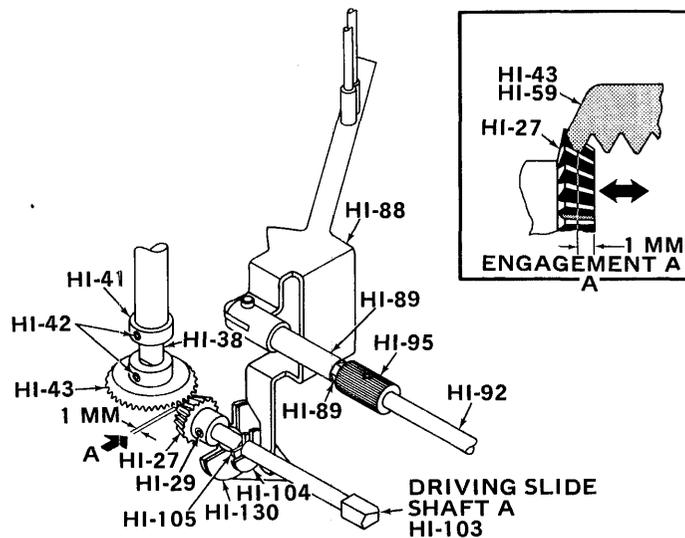
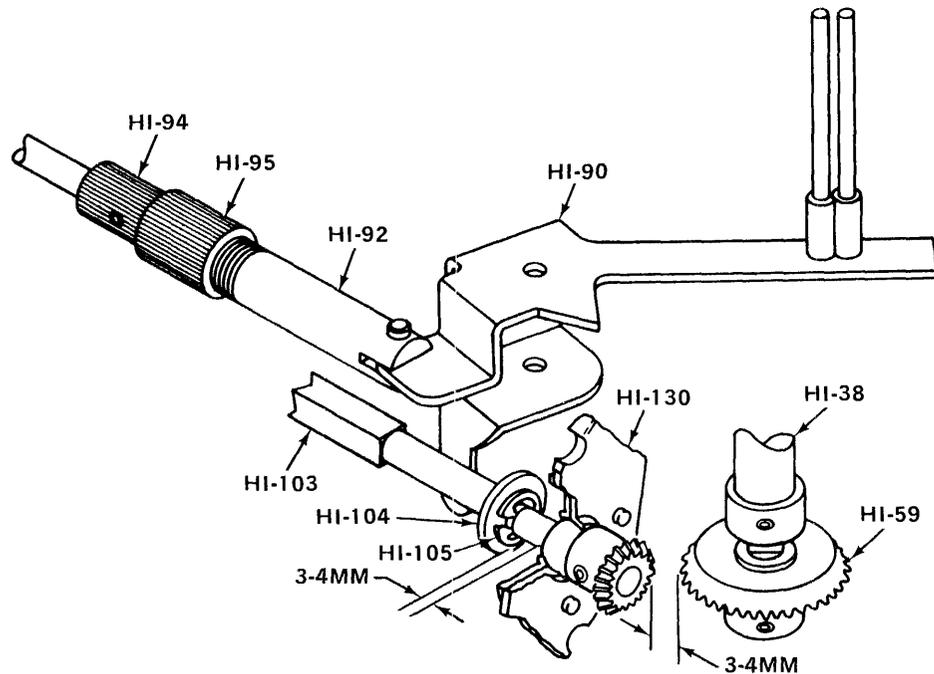
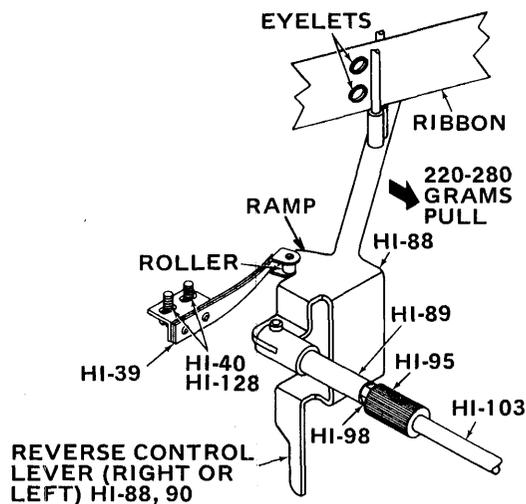

Figure 5-14. RIBBON FEED MECHANISM (REAR OF PRINTER, LEFT SIDE)
Figure 5-16. DRIVING SLIDE SHAFT A - ADJUSTMENT
Figure 5-18. RIBBON REVERSE TIMING
Torque transmission route for left and right ribbon feed mechanism is determined by position of driving slide shaft A (HI-103) (Fig. 5-16) controlled with control spring (HI-39) (Fig. 5-18) and left and right reverse control lever (Fig. 5-18/90, 88).
- A. Bevel Gears (Left and Right) (HI-27, 43) and (HI-27, 59) (Refer to Figure 5-14)
2. Adjust bevel gear (HI-27) (left side) with respect to bevel gear (HI-43) by loosening and tightening allen-head screws (HI-29) to obtain engagement A of approximately one millimeter (0.039-in.) . See Fig. 5-14, and View A.
When engagement A (Figure 5-14) has been properly adjusted between gears (HI-27) with respect to bevel gears (HI-43, 59), adjust bevel gears (HI-43, 59) alternately to obtain correct backlash operation of gears in the following manner:
1. When engagement A and B of bevel gears has been made (Figure 5-14, 5-15), one snap ring (HI-105) always contacts support bushing (HI-130); the distance between other snap ring (HI-105) and the support bushing (HI-130) on shaft (HI-103) is 3 to 4 millimeters (0.12-0.16-in.). (See Figure 5-16). Note that distance between bevel gear (HI-59) and bevel gear (HI-27) is also 3-4 mm.
2. When bushings and holders (HI-133, 130) on left and right side of printer are installed, the driving slide shaft A (HI-103) should move freely and travel an overall distance to 3.0 to 4.0 millimeters (0.12-0.16-in.) when engaged alternately in either direction with bevel gears (HI-27, 43) or (HI-27, 59). (See Fig. 5-16).
E. Control Spring (HI-39) - Ribbon Reverse Timing (Fig. 5-18)
1. When reverse control lever (HI-88) turns left by moving ribbon reversing shaft (HI-92) to left, and if Engagement A (Fig. 5-14) between bevel gear (HI-27) and bevel gear left (HI-43) is decreased to approximately 1.0 mm (0.039-in.), adjust position of control spring (HI-39) by loosening screws (HI-40) and flatwashers (HI-123) to just pass roller mounted on control spring (HI-39), (located underneath left ribbon spool shaft HI-38) over top of ramp of reverse control lever (left) (HI-88). Note, that both ribbon spools will rotate freely when driving slide shaft A (HI-103) is in neutral position (top of ramp).
2. When ribbon of spool (empty condition) containing eyelets (or small plate) is blocked by ribbon guides (part of HI-88, 90), a pull of 220-280 grams (7.7 oz-9.8 oz) is exerted on the reverse control levers (either left or right), which reverses the ribbon movement (See Figure 5-18).
**Both bevel gear (HI-27) and bevel gear (right and left) (HI-42, 59) should be timed so that they engage together after roller, mounted on control spring, passes over top of ramp of reverse control lever (HI-88). (Fig. 5-18).**